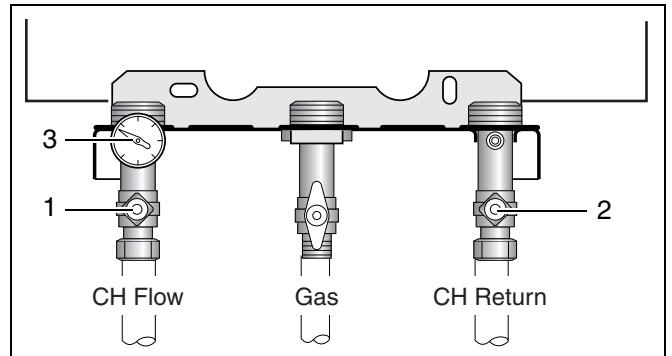

fig. 3 Servicing shut off valves
- Check the pressure gauge (fig. 3, item 3) located at the bottom of the boiler for the current system pressure. Optimum system pressure is 1.5 bar.
- If necessary open the CH flow and CH return servicing valves (fig. 3, item 1 and 2).
- Fill the system to a pressure of approx. 1.5 bar (fig. 3, item 3).